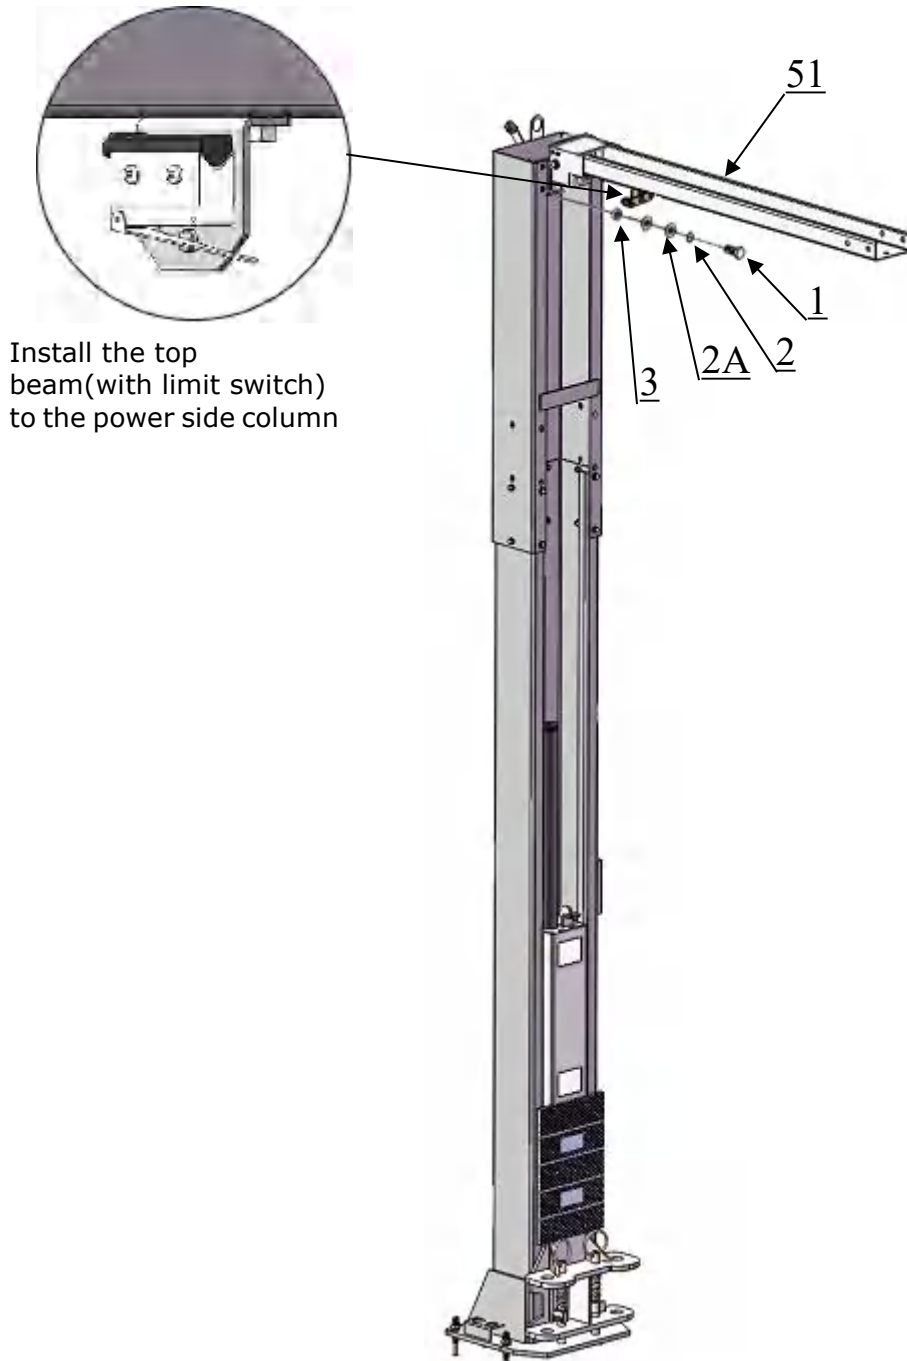

Fig.25
H. Install top beam (See Fig. 25).